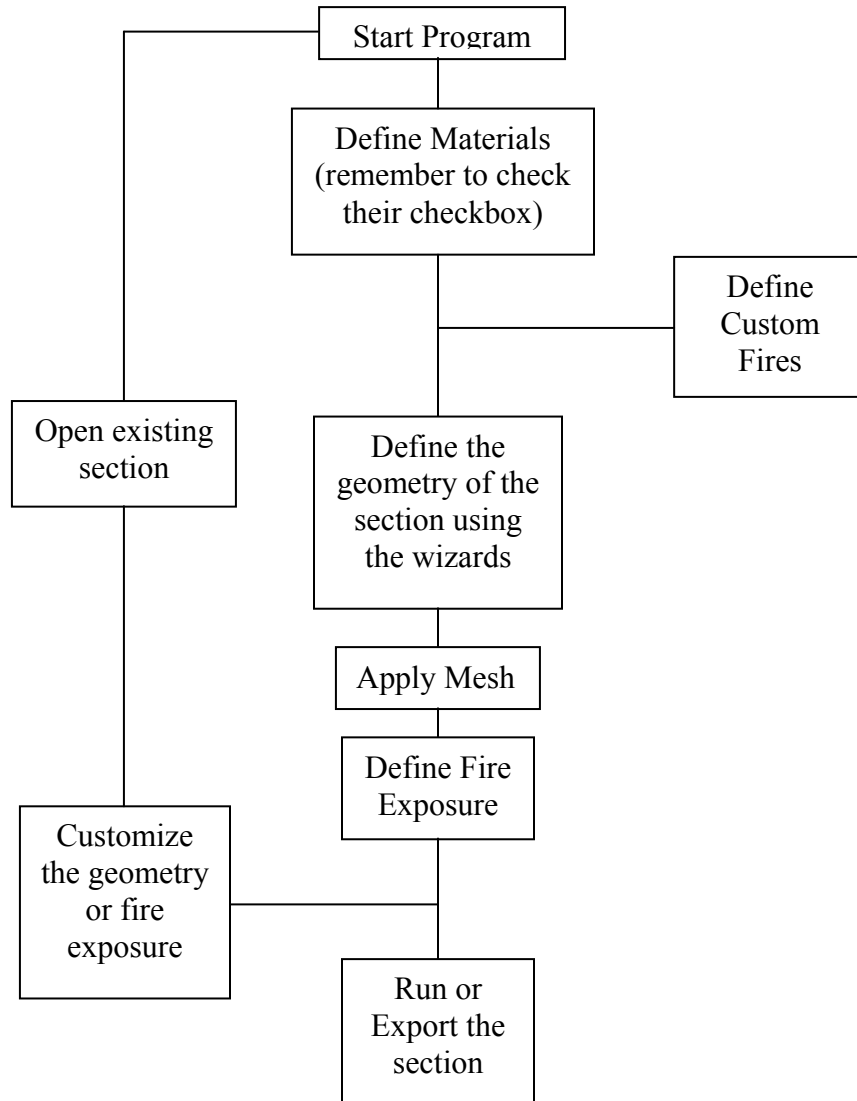

Figure 3.1: Program Flow Chart
*UT Fire* is written in *Visual Basic*, and presents the user with a series of input screens and menus to develop a *SAFIR2007* input file for a two-dimensional heat transfer analysis. Figure 3.1 provides an overview of *UT Fire* in the form of a flowchart.